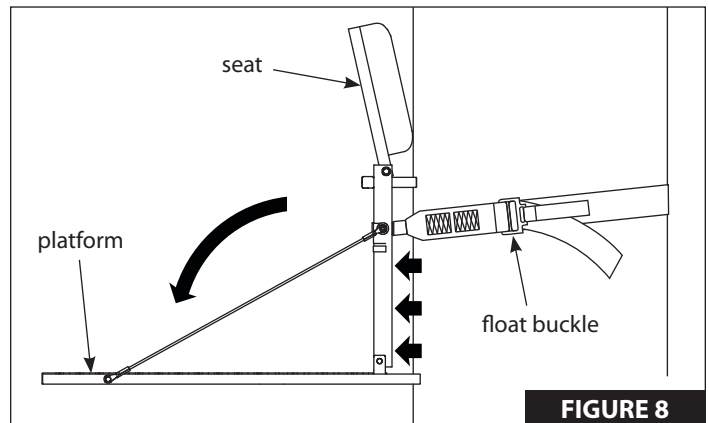

FIGURE 8
e. Once securely attached, pivot the platform down. This lever-action will snug stand up tight to tree to prevent any shifting. Redo as necessary to accomplish a snug stand-to-tree fit. All four contact bars must be touching tree! **SEE FIGURE 8.**